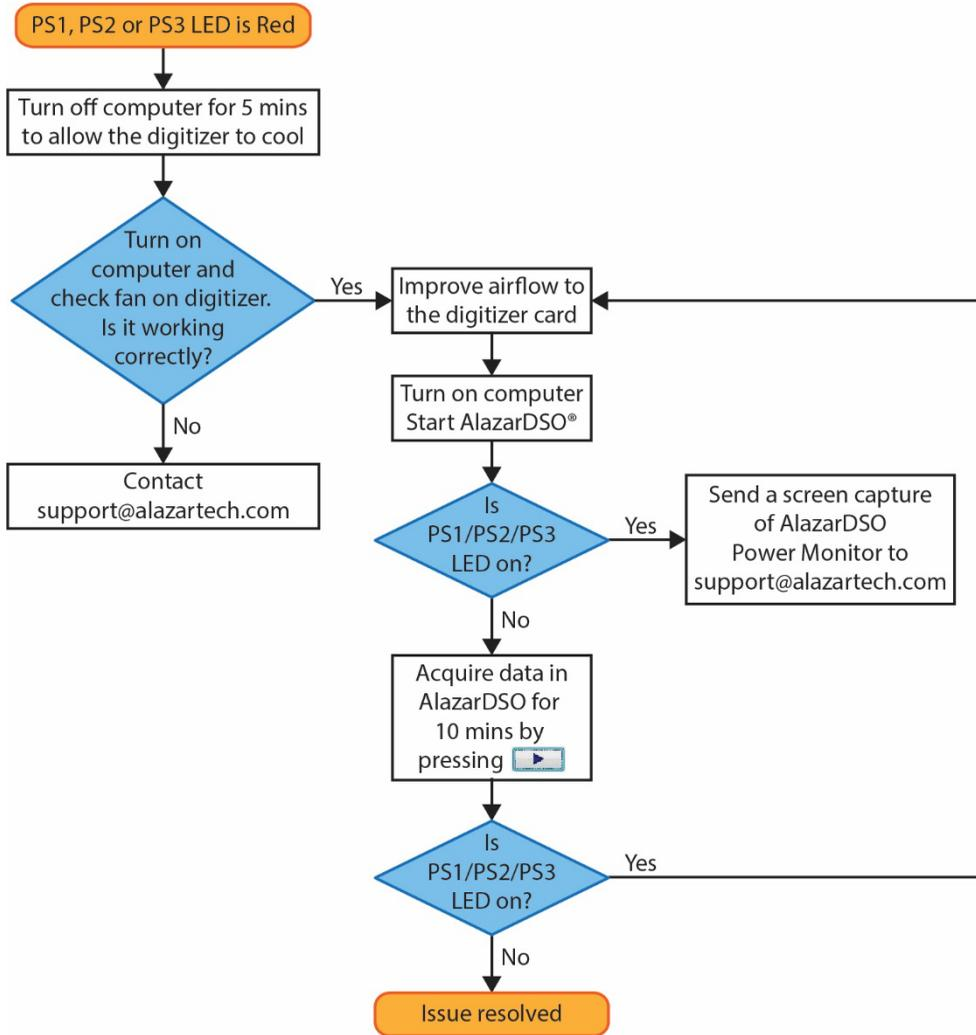

Figure 4 – Flowchart for Power Monitor Status LEDs
- **PS1 (LED3):** Power Monitor error output from the board. This LED being red indicates that there is an overheating or power supply issue. Refer to Figure 4 – Flowchart for Power Monitor Status LEDs for steps to follow if this LED is red.
- **PS2 (LED4):** Power Monitor error output from the board. This LED being red indicates that there is an overheating or power supply issue. Refer to Figure 4 – Flowchart for Power Monitor Status LEDs for steps to follow if this LED is red.
- **PS3 (LED2):** Power Monitor error output from the board. This LED being red indicates that there is an overheating or power supply issue. Figure 4 – Flowchart for Power Monitor Status LEDs for steps to follow if this LED is red.